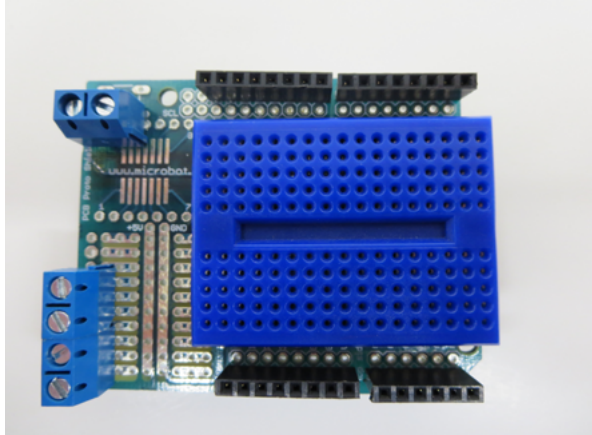

Fig.12
5. Mount the Abra-1 blue breadboard onto the Prototype board as shown in Fig. 12. Center the breadboard so that the pin numbers are visible for wiring reference.